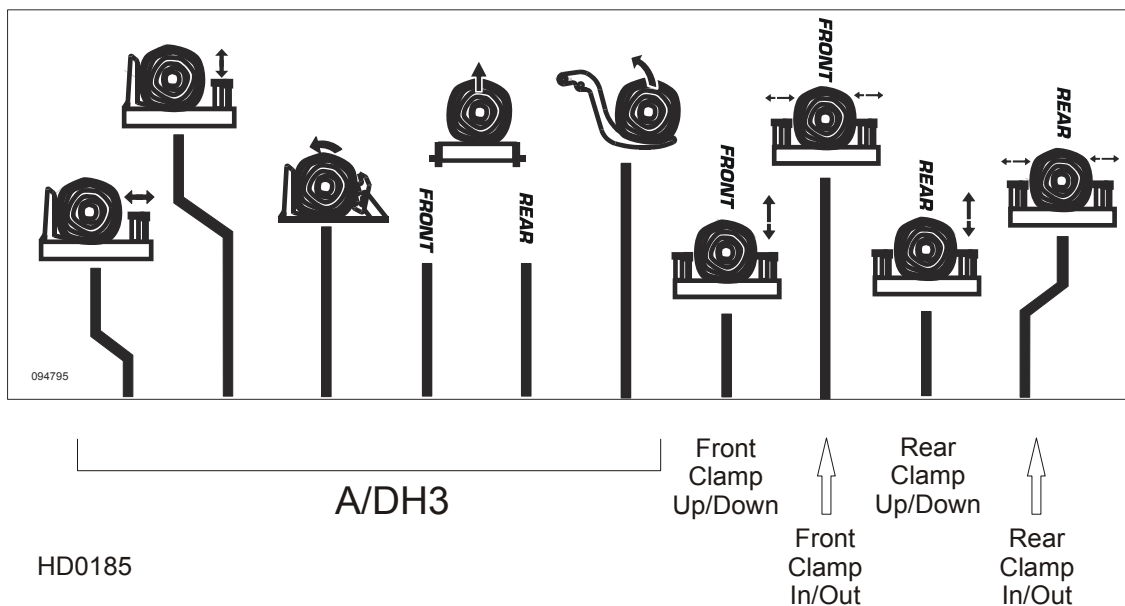

**FIG. 2-9**
**See Figure 2-9.** DH3 hydraulic units have six control levers to load, clamp, turn and level logs. DH5 and DH7 hydraulic units have four additional levers for controlling the Pull-Down clamps. In sawmills equipped with DH5 hydraulic system, individual Pull-Down clamps are controlled with separate levers. In sawmills with DH7 hydraulic system, in/out movement of individual clamps is controlled with the same lever and up/down movement of individual clamps is controlled with separate levers. DH5 and DH7 hydraulic control boxes are equipped with an oil flow control valve.